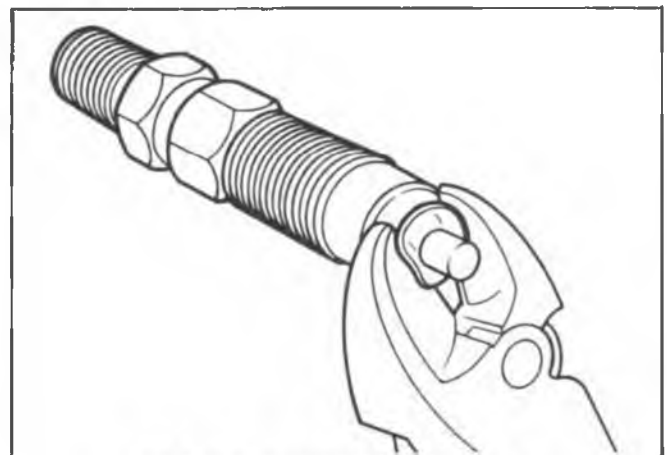

Fig. 5-12 Removing Old Sealing Washer
1. Remove and discard the old copper sealing washer from the tip of the injector using a pair of diagonal cutters as shown in Figure 5-12. Be careful not to damage the nozzle tip when doing this.